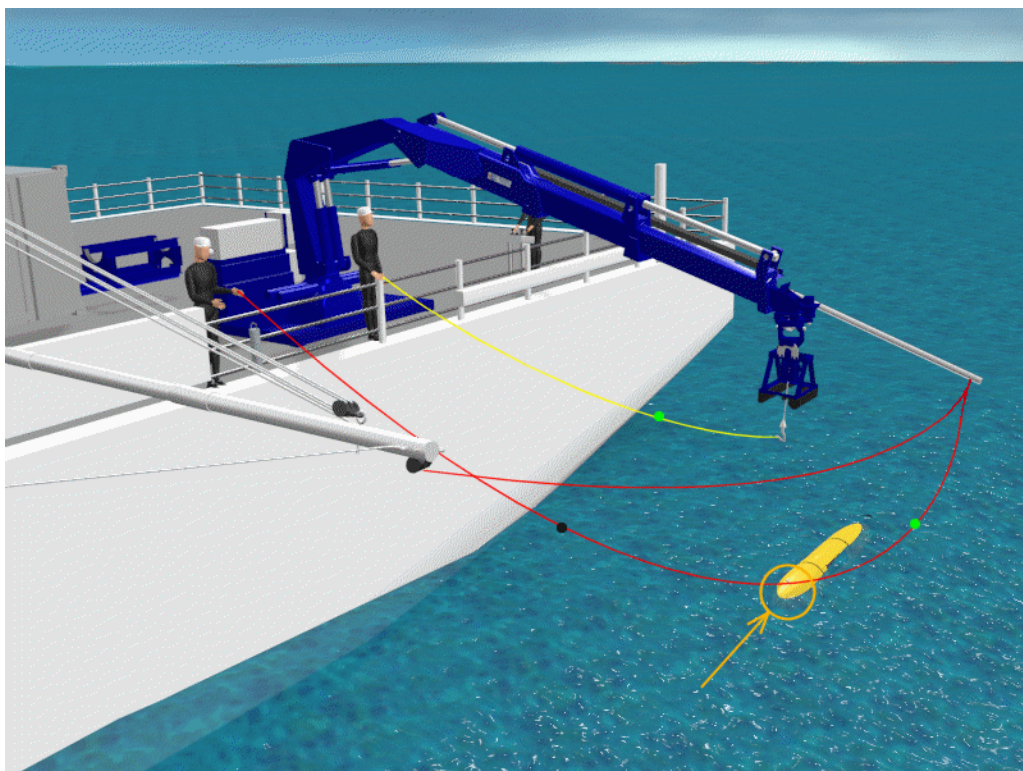

Figure 4-13
8. As soon as the target passes the AUV propeller shroud, the target is lowered onto the AUV hull and moves forward until it is engaged in the tow hook (Figure 4-13).